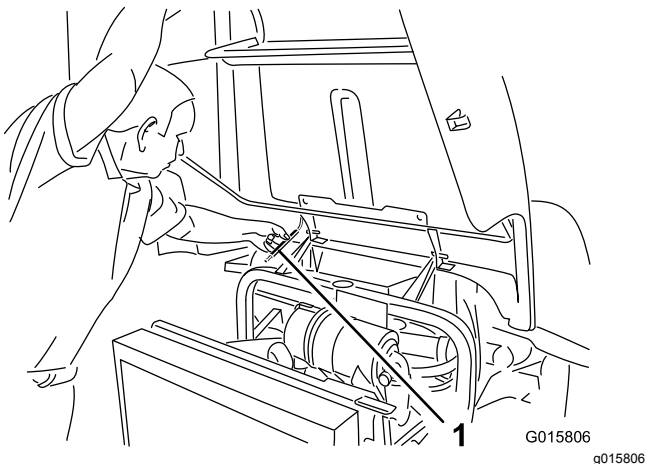

Figure 28
2. Lift up the hood until you can position the prop rod behind the frame tube (Figure 28).